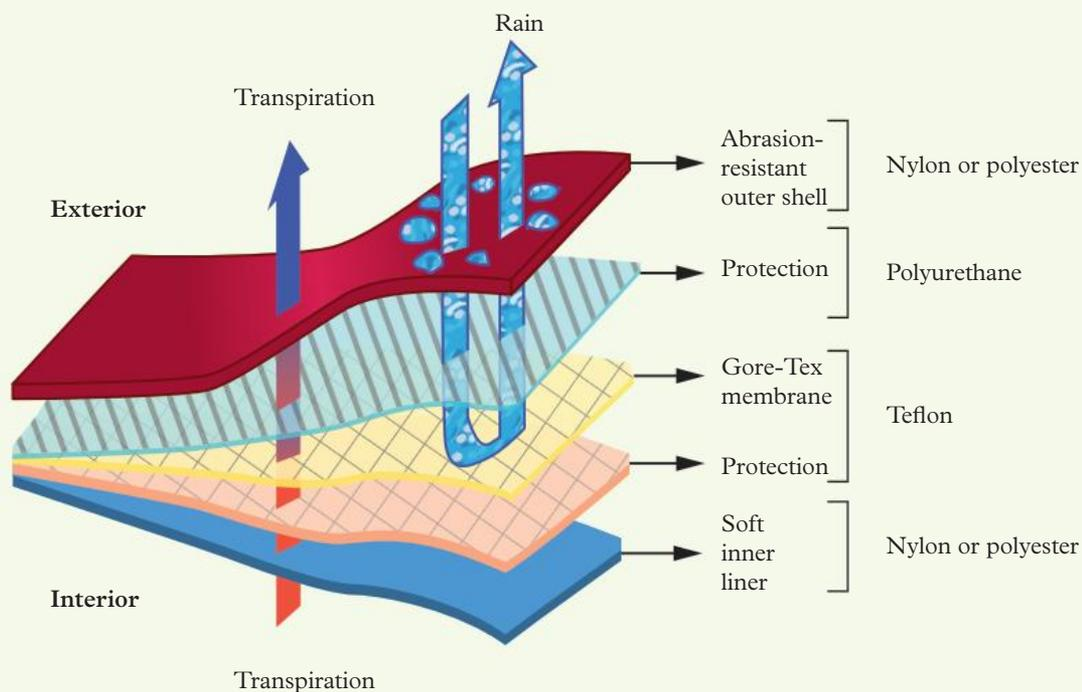

FIGURE 11 The structure of Gore-Tex
- 7 Gore-Tex is a designer polymer that is used as a replacement for nylon in jackets. Gore-Tex is made from layers of individual polymers. Its structure is shown in Figure 11.